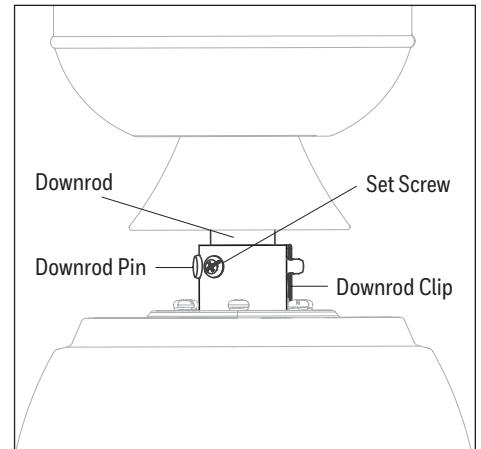

Figure 3.3
3. Slide the downrod into the yoke of the motor assembly, align the holes, then reinstall the downrod pin and downrod clip. Secure with the two set screws and slide the yoke cover down until it rests on top of the motor assembly (Figure 3.3).